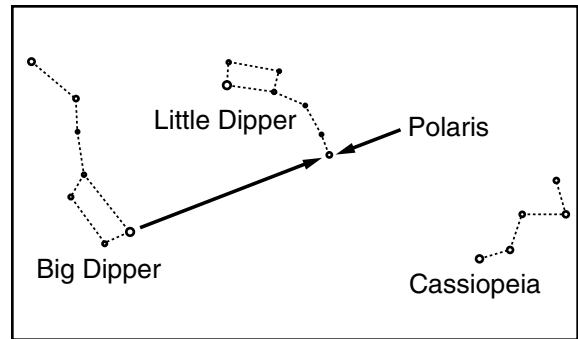

Figure 9: Finding Polaris
1. Release the Azimuth lock (32, Fig. 1) of the Azimuth base, so that the entire telescope-with-mounting may be rotated in a horizontal direction. Rotate the telescope until it points due North. Use a compass or locate Polaris, the North Star (see Fig. 9), as an accurate reference for due North.